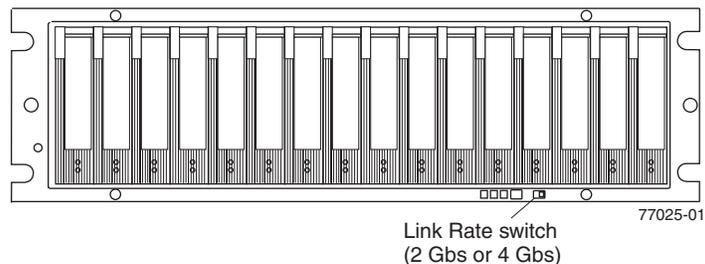

Figure 90. Link rate switch
A Link Rate switch is located on the front of the storage subsystem as shown in Figure 90 on page 131. The Link Rate indicator LEDs are located on the back of the storage subsystem. The Link Rate switch enables you to select the data transfer rate between the controllers and the drives to either 2 Gbps or 4 Gbps. The Link Rate switch is only read when the storage subsystem is powered up.
4. Locate the Link Rate switch. Figure 90 shows the location of the Link Rate indicator light on the front of the command module.